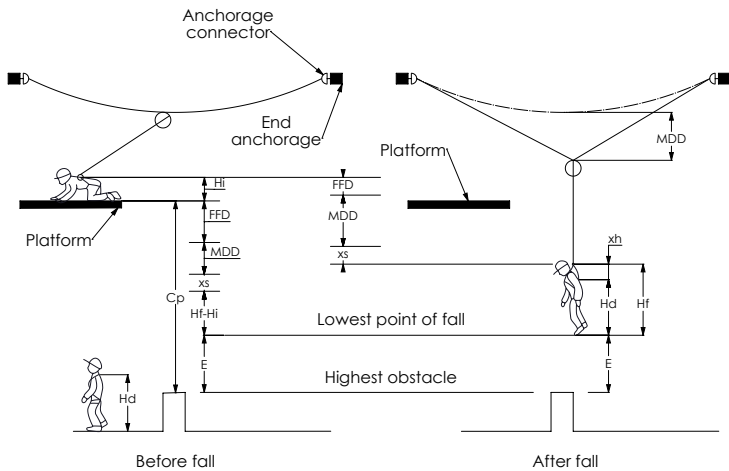

Figure 2 - Calculating minimum clearance distance below the work platform when using a lanyard or SRL
- Minimum clear free fall distance required below users working platform The following formula shall be used to calculate the required minimum clearance below the platform: $C_p = FFD + MDD + x_s + (H_f - H_i) + E$ (Refer to Legend in Figure 2).